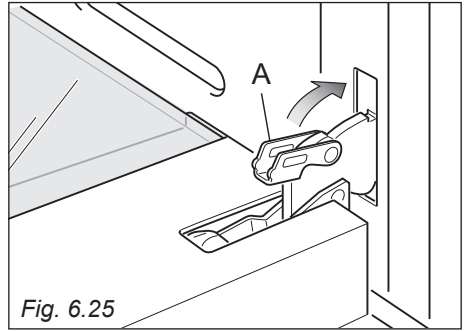

Fig. 6.25
4. Fully close the levers "A" on the left and right hinges, as shown in the figure 6.25.